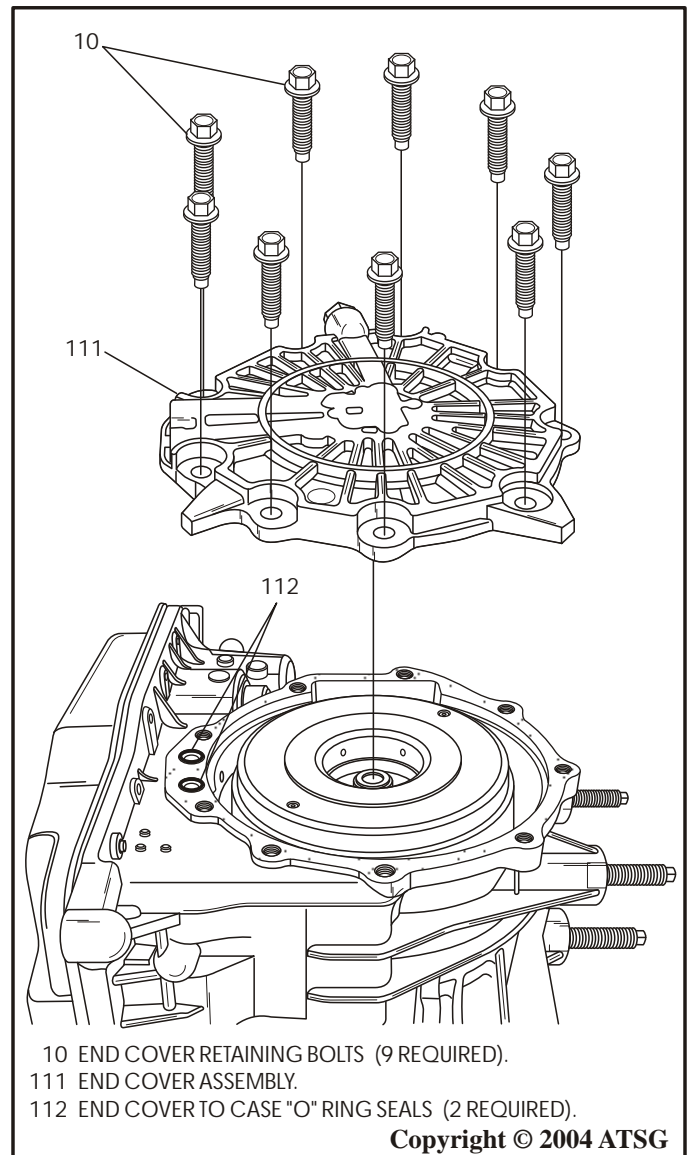

Figure 179
54. Install the completed end cover onto transaxle, as shown in Figure 179.
- Note: Ensure that "O" ring seals are still in place, as shown in Figure 179.**
55. Install the nine end cover retaining bolts, as shown in Figure 179.